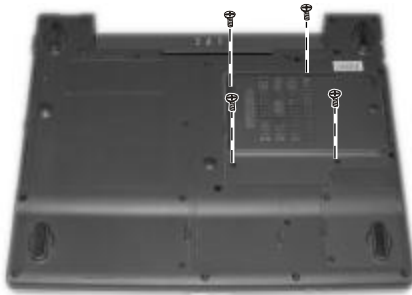

Figure 2-6 Remove four screws
2. Remove four screws fastening the heatsink cover. (Figure 2-6)